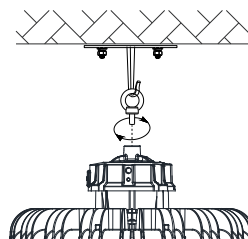

Figure 2
2. Please hang the fixture into the lifting chain and protect it from falling. ( Figure 2)